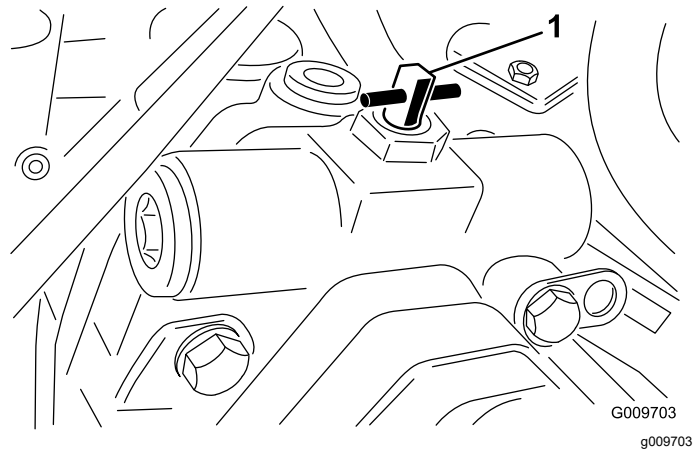

Figure 57
6. Close the tow bypass valve by rotating it back 90° (1/4 turn) before starting the engine. (Figure 57).